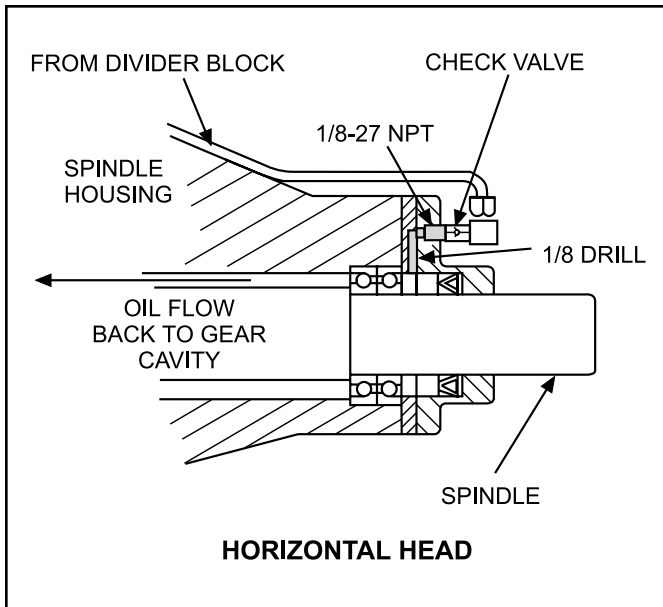

Figure 2-3. SG-1 Typical Machining Head Modification
2.2.3.1 Some bearings located at the ends of shafts may be recessed too far in the wall for the spray pattern to provide adequate lubrication. For these cases, lubricant is provided directly to the bearing from the divider valve. It may be necessary to drill passageways to reach these lubrication points. Figure 2-3 shows a typical machined passageway. In the example shown, the front bearing would not be exposed to lubricant from the spray nozzle. By drilling access holes to the bearing and providing a 1/8-27 NPSF hole for a soft-seat check valve, a line directly from the divider valve can supply the bearing with the proper amount of lubricant. Information from the design process should locate any bearings which need this treatment.